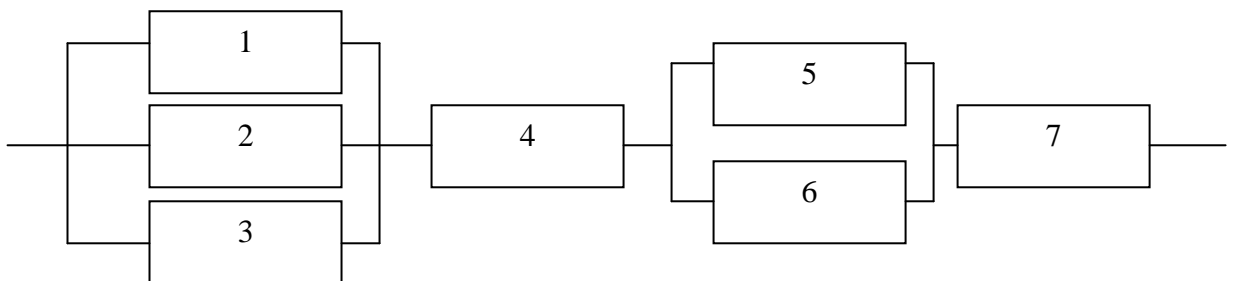

Figure Q6[c]
- [c] Find the reliability of the system as shown in Figure Q6[c], where components 1, 2, 3, 4, 5, 6 and 7 have reliabilities of 0.955, 0.999, 0.982, 0.967, 0.944, 0.998 and 0.983 respectively.**